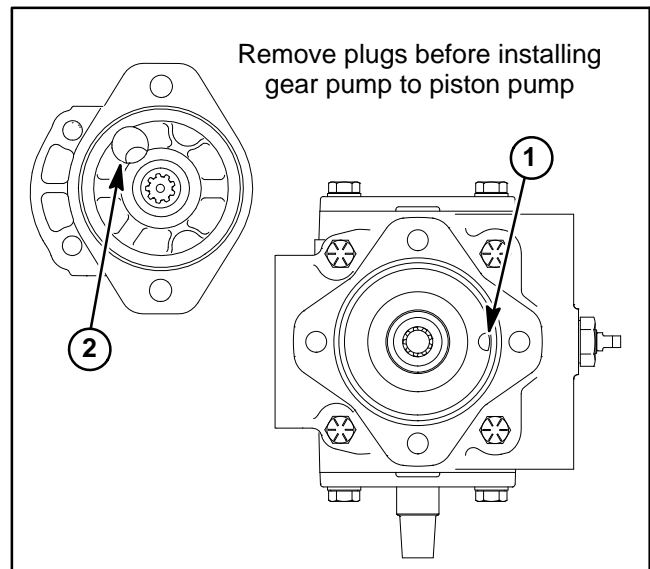

Figure 54
**NOTE:** A case drain exists in the piston pump/hydrostat and a suction port is near the input shaft of the gear pump (Fig. 54). When the gear pump is removed from the piston pump, plug piston pump case drain hole to prevent draining the piston pump.
**IMPORTANT: A case drain exists in the piston pump/hydrostat and a suction port is near the input shaft of the gear pump (Fig. 54). Before the gear pump is installed to the piston pump, make sure that plugs placed in either of these ports are removed. Failure to remove plugs will cause excessive pressure in the piston pump and damage seals. Also, before installing gear pump to piston pump, fill piston pump housing with clean hydraulic oil through case drain hole.**
5. Align gear teeth and slide gear pump input shaft into piston pump coupler. Secure gear pump to piston pump with two (2) cap screws and flat washers.